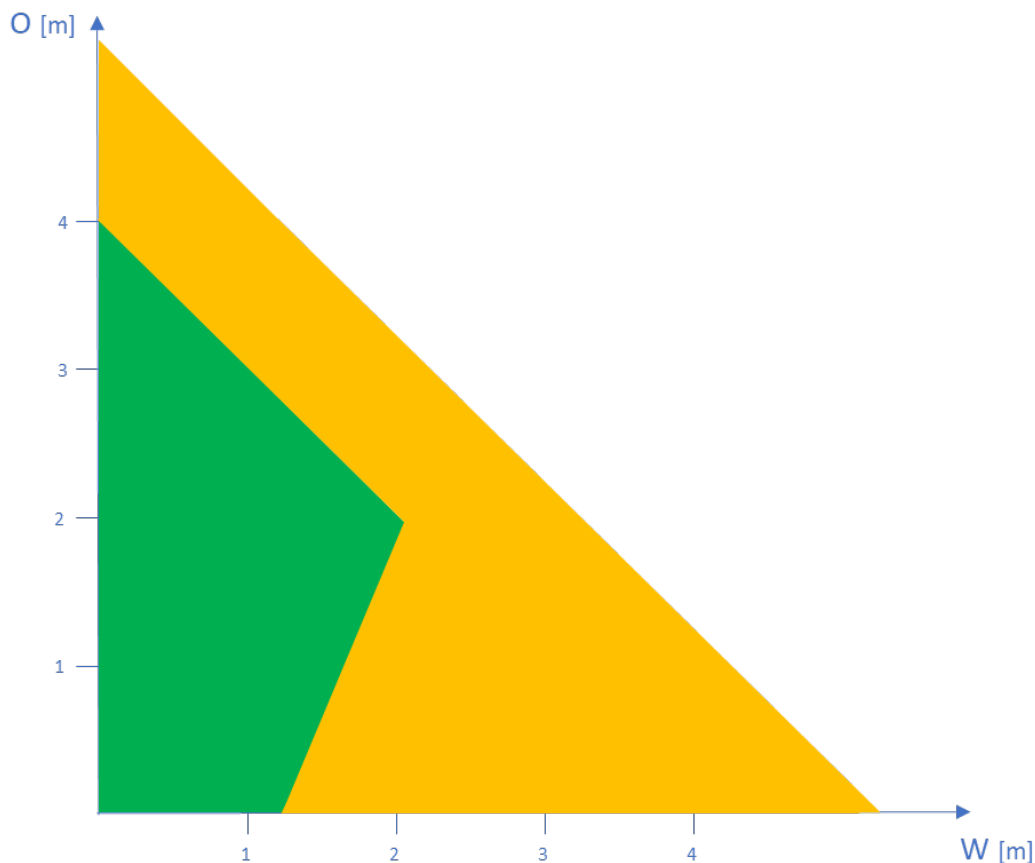

Figure 6: precision in function of offset ( $O$ ) and width of bicycle path ( $W$ ) for an installation height ( $H$ ) of 2 m
The higher the radar is installed, the larger vertical angle of the radar to detect the cyclists and therefore the smaller the detection Distance (D). Figure 6 shows in green the possible combinations of Offsets and Width at installation height of 2 m for a high degree of precision (97 % or more). The orange area shows the combinations of Offsets and Width for which the detection precision will drop below 97 %.
Assuming that the minimum height of the saddle is 1m and that the minimum height of the cyclists' heads is 1.6m, the maximum Width  $W$  of the bicycle path with Offset zero is 1.25 m as shown in Figure 6 for an installation height at 2m.